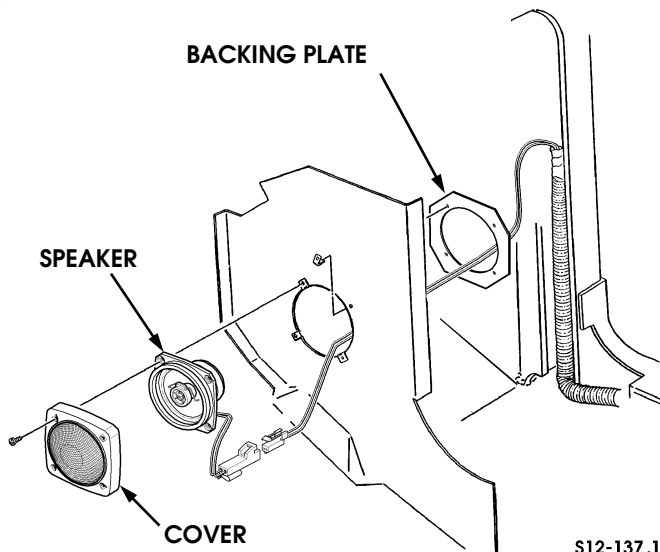

Figure 12-144: Right Front Speaker Model 90.
3. Remove four screws, clips, cover, backing plate and right front speaker from trim (Figure 12-144).
7. Connect two leads to right front speaker (Figure 12-144).